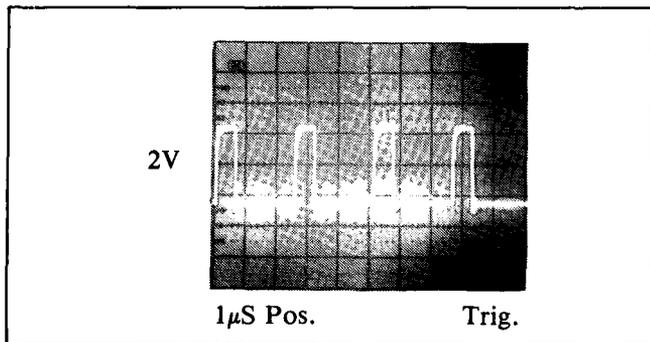

Figure 7-D-1. U501 ALE Signal
- b. Make sure the ALE line at U501 pin 11 is good, as shown in Figure 7-D-1. If the signal is missing or wrong,